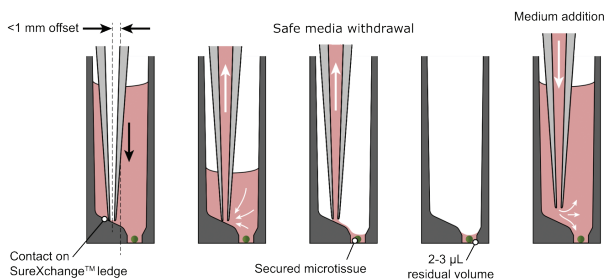

Figure 2: Safe medium exchange in the Akura™ 384 Plate.
1. Place the pipette tip at the ledge of the well (Fig. 2).